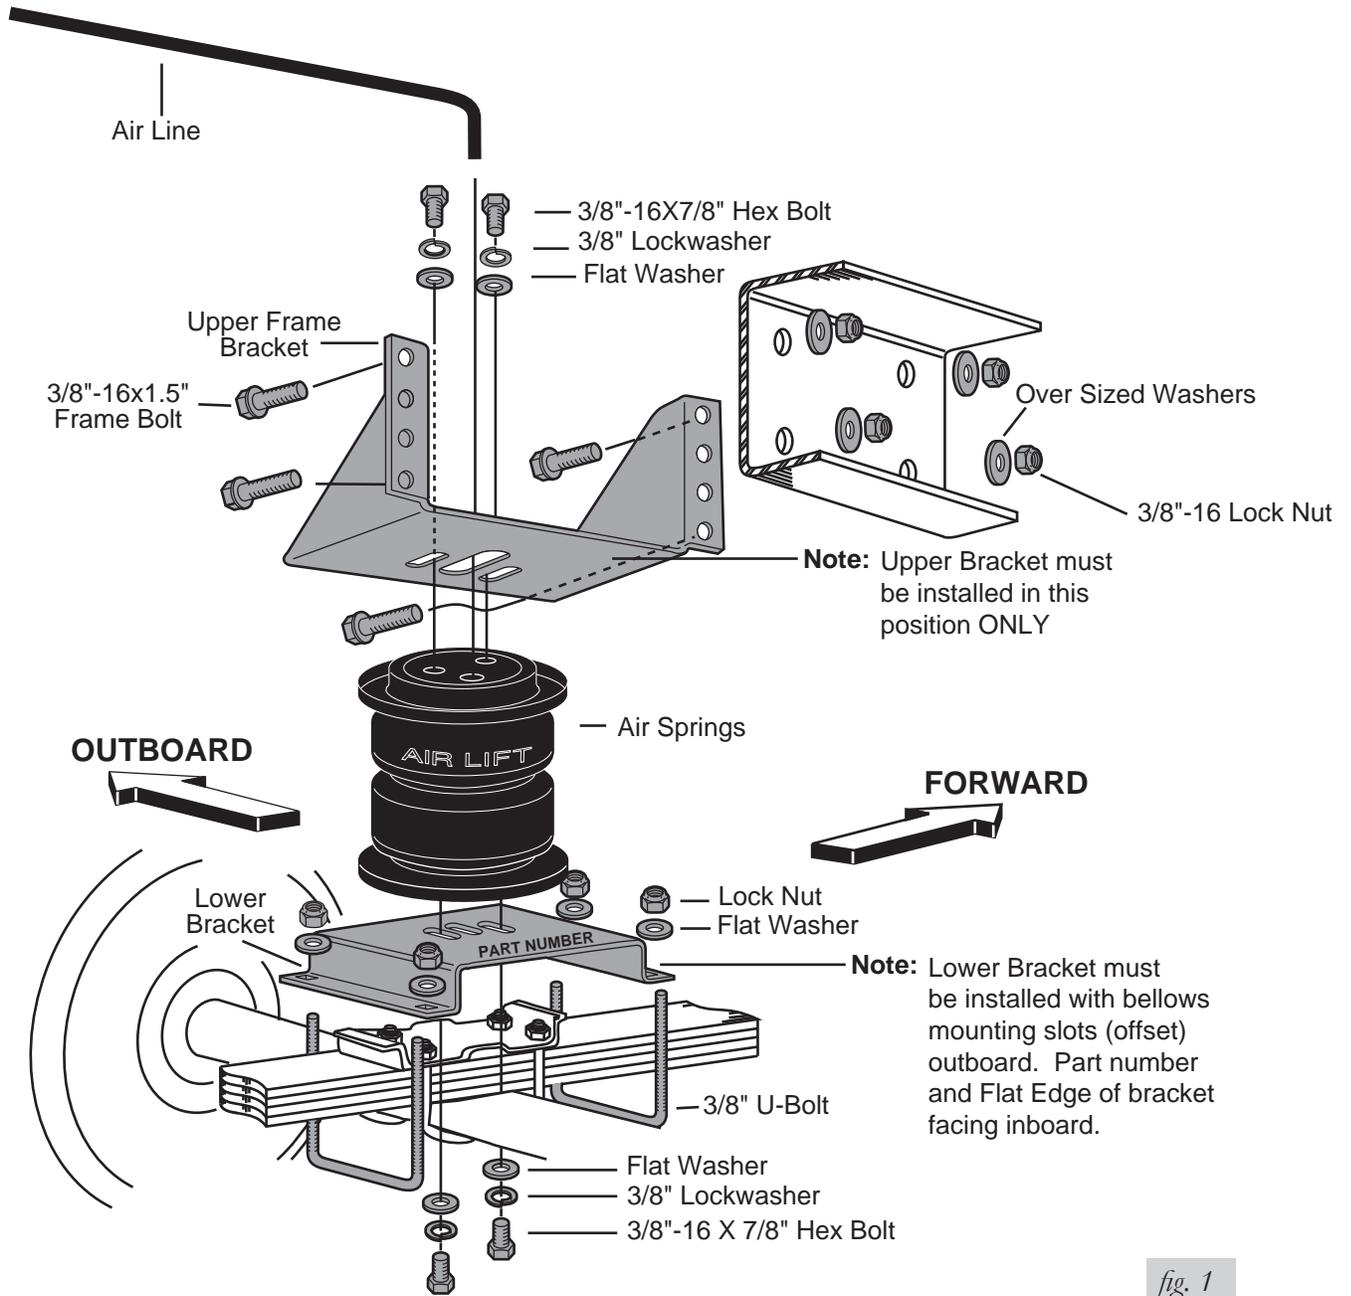

fig. 1
1. Set a roll plate on both ends of the air spring. The radiused (rounded) edge of the roll plate will be towards the air spring so that the air spring is seated in both roll plates (Figures 1,4 and 5).
2. Attach the lower bracket to the leaf spring using provided U-bolts, flat washers and lock nuts as shown in Figure 1.